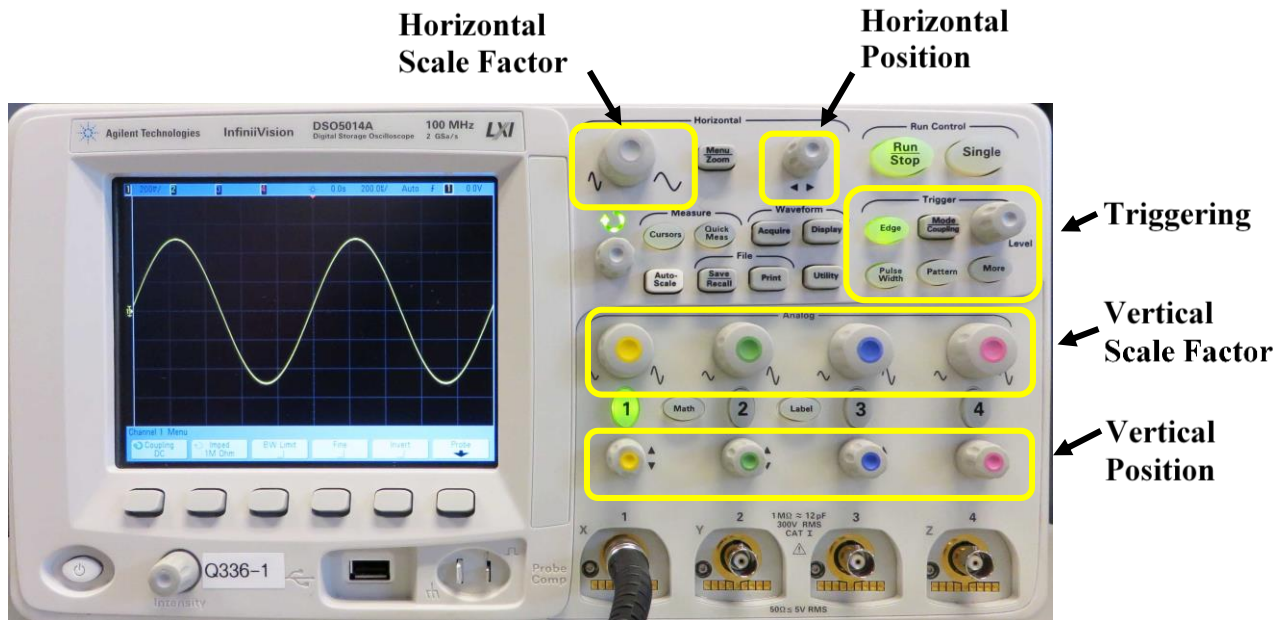
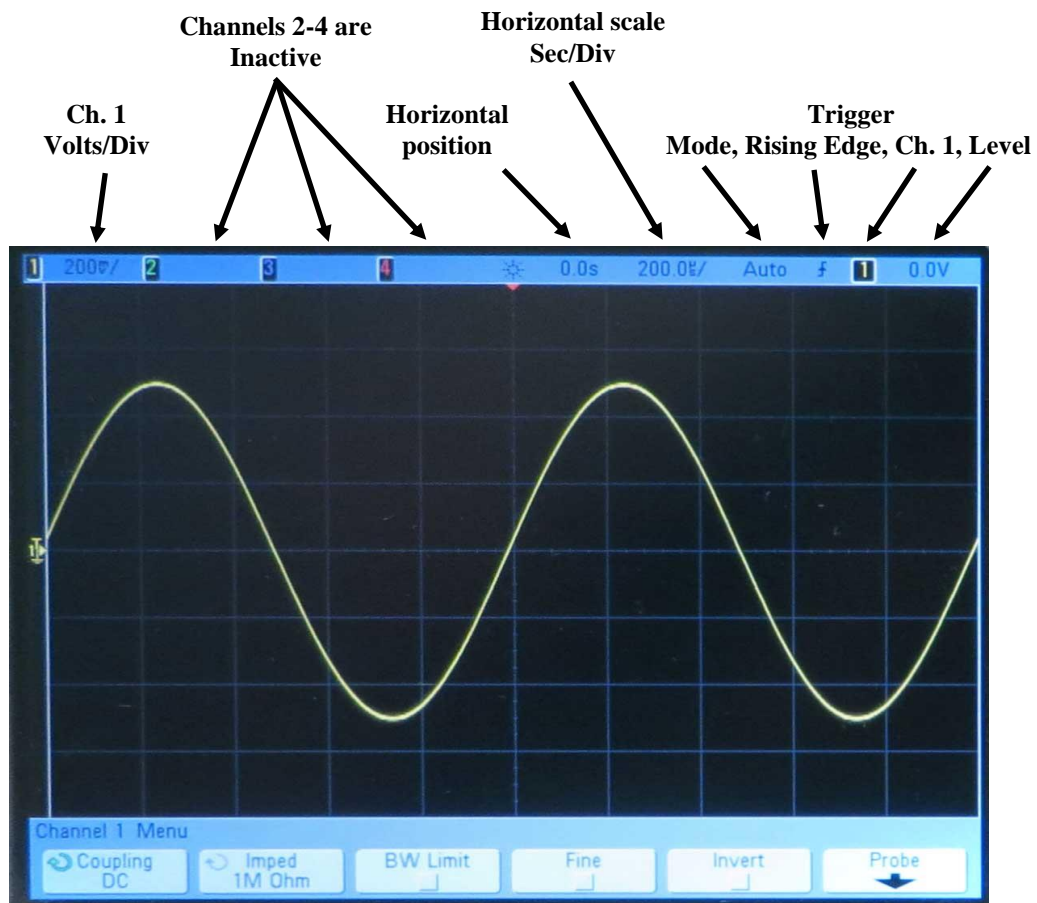

Fig. 5. Oscilloscope front panel.
Fig. 6. Display with settings indicated.
The oscilloscope front panel is shown in Fig 5 with the main adjustment controls indicated. The most important settings are shown along the top of the display as in Fig. 6.
- a. Connect the AWG output (not the sync) to the oscilloscope Ch. 1 input with a cable. The waveform may not look like the one in Fig. 6 at this time.